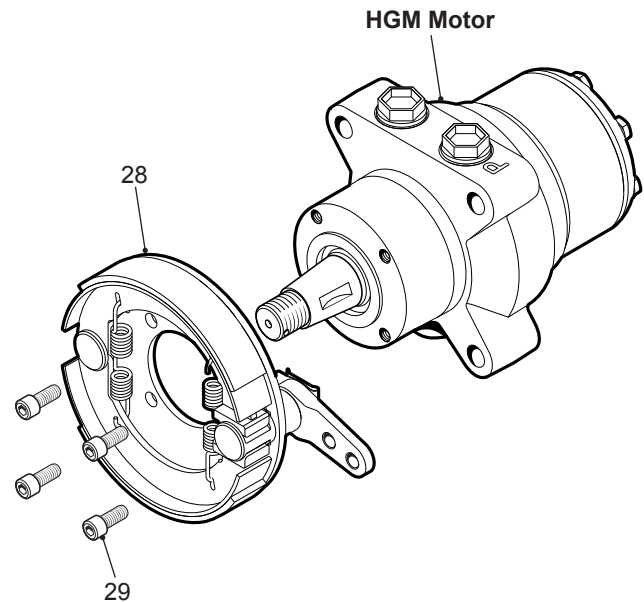

Figure 2, Brake Assembly
1. Remove the cotter pin (30).
2. Remove the castellated nut (1).
3. Remove the drum/hub assembly (27).
4. Remove the four bolts (29) securing the brake assembly (28) to the HGM-E motor.
5. Remove the brake assembly. See figure 2.